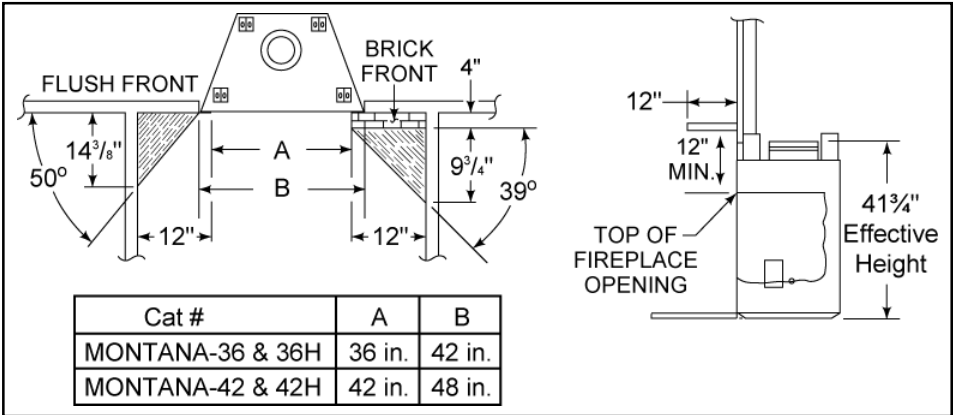

Figure 6 - Sidewalls and Surrounds
Adjacent combustible side walls must be located a minimum of 12" from the fireplace opening. See Figure 6. If you are using a decorative surround constructed of combustible material, it must be located within the shaded area defined in Figure 6. Short stub walls are also acceptable if they are contained within the shaded area.
- 6) The effective height of the fireplace assembly is measured from the base of fireplace to top of starter collar. See Figure 6.